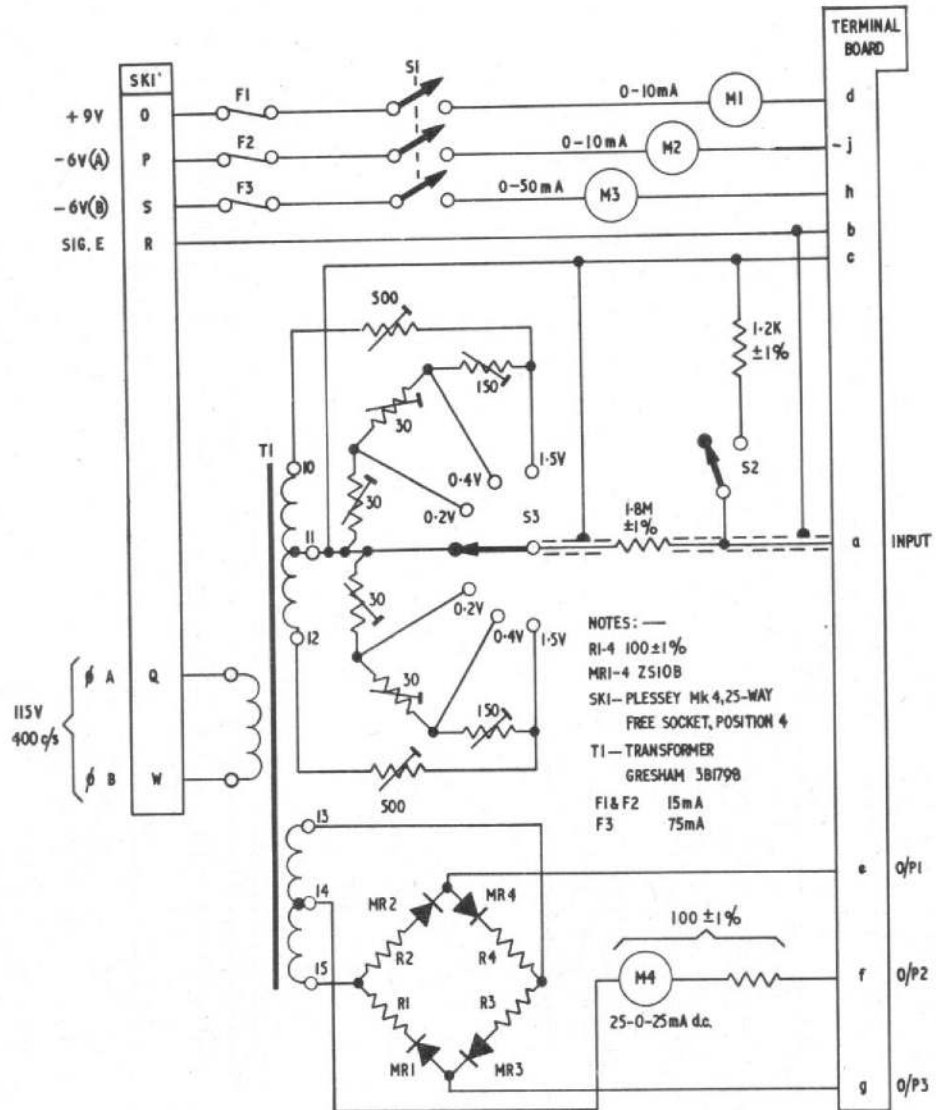

Fig. 17. Transistor amplifier test equipment—circuit diagram
**150.** Connect SK1 of transistor amplifier (TA) test equipment (fig. 17) to PL4 of test set, Type 9B SDP and connect the transistor amplifier to the terminal board of TA test equipment. Switch test set, Type 9B S1 and TA test equipment S1 to ON and TA test equipment S2 and S3 to OFF. The TA test equipment meter indications should be as follows:—